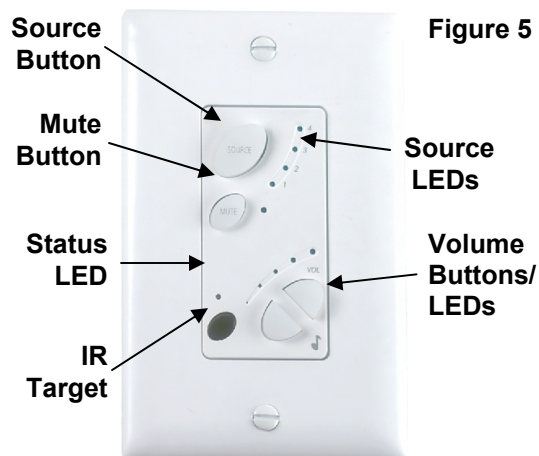

Figure 5
Keypad – Press any button for ON / Press and hold MUTE button for OFF (see **Figure 5**).
Keypad – Press SOURCE button multiple times (see **Figure 5**).
Keypad – Press and hold VOLUME UP and DOWN buttons simultaneously. The button back lights will flash to indicate they may be adjusted. Press VOLUME UP or DOWN button to adjust back light level. Press SOURCE or MUTE button to exit or wait for 10 second time out (see **Figure 5**).
Keypad – Double tap MUTE button, Status/IR LED glows dim RED (see **Figure 5**).
- G. Whole-House Source Control/Party Mode (see **Figure 5 and 6**):